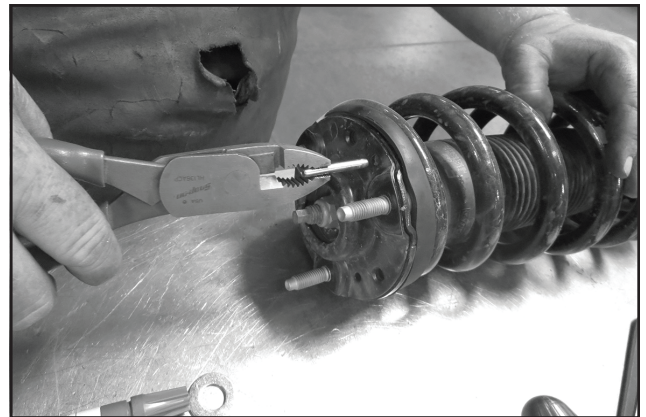

FIGURE 10 - STEP 10
10. Remove and discard the locating pin from the factory strut top cap. **(FIGURE 10).**